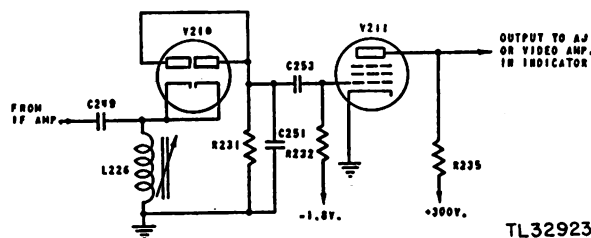
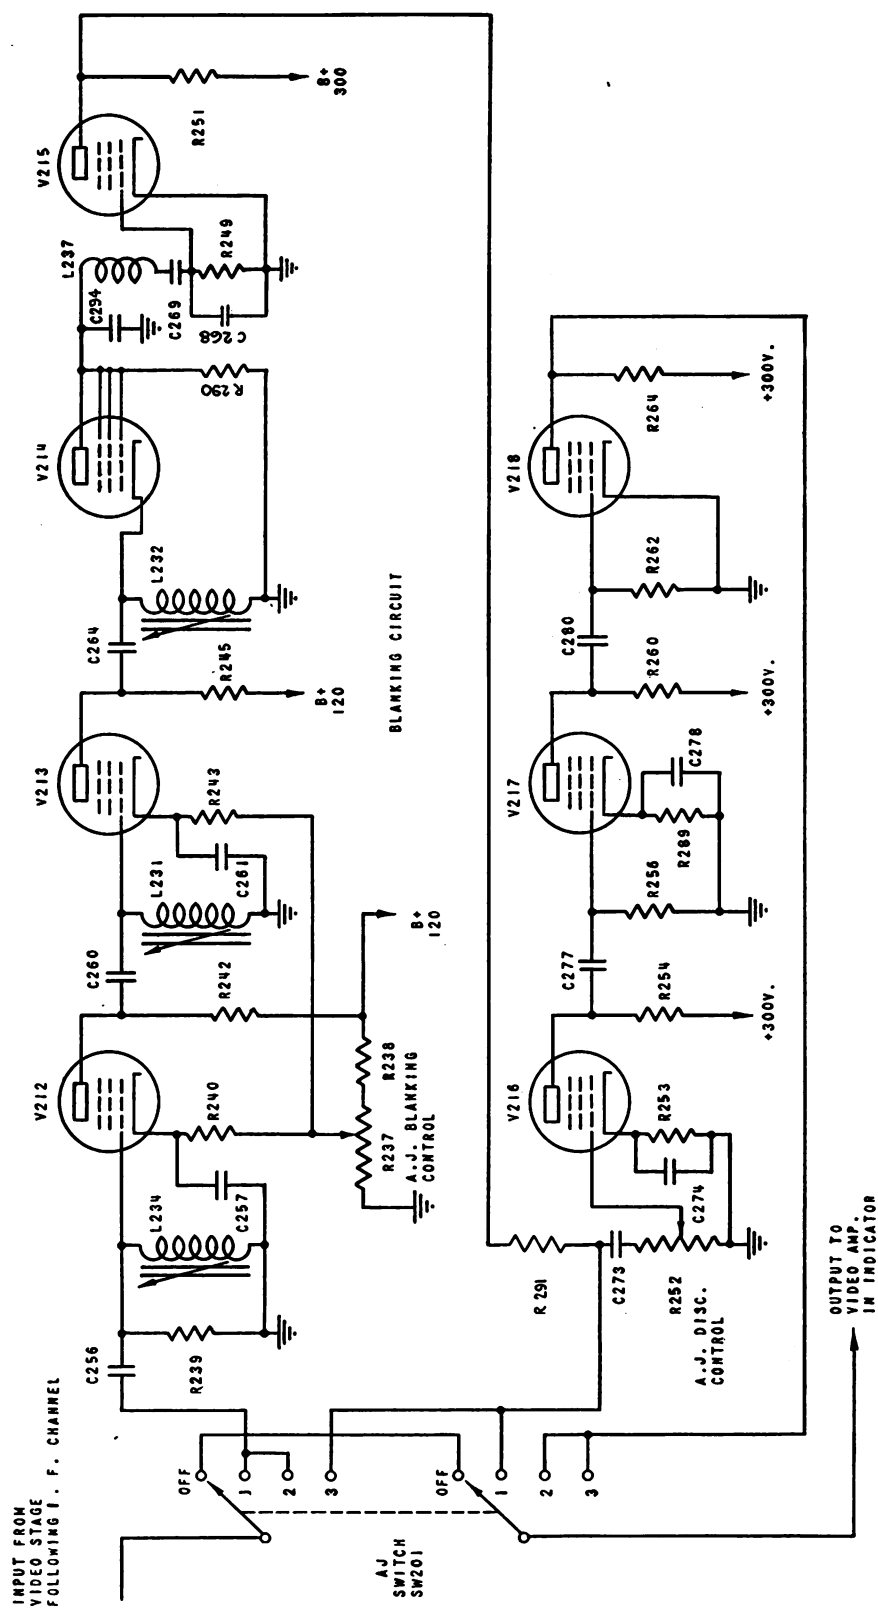

Figure 24. Receiver detector and video functional schematic.
Figure 26. AJ functional schematic TL 32920A
17. DETECTOR. The signal from the 6th i-f amplifier is fed through capacitor C249 to the cathode of the diode detector V210 (figure 24). Since the signal is fed to the cathode, only the negative half cycles cause the tube to conduct the output, which is taken off the load resistor R231 and is a negative video pulse. Capacitor C251, which partially by-passes the load resistor, is made small enough so that the remaining i-f is about 10% of the video pulse. This i-f component of the video signal is necessary for the operation of the a-j blanking circuit, as explained in paragraph 19 below.
a. The video pulse is coupled through capacitor C253 to the grid of tube V211, the video amplifier (fig. 24). Tube V211 is slightly biased through resistor R232. The video pulse is amplified by the tube and appears in the plate circuit as a positive video signal. When the anti-jamming circuit is not used, the output of the video amplifier is fed through the AJ switch SW201, to the multiple plug board. From here it goes on to the video amplifier in the indicator unit.
(a) A simplified schematic diagram of the a-j circuits is shown in figure 26. Switch SW201 in the OFF position bypasses the a-j circuits completely. In position #1 the signal is coupled by C256 to the grid of V212. L234 is tuned to the i-f signal, presenting a high impedance to the intermediate frequency, but a very low impedance to video frequencies. If the video pulse is limited in V211 (fig. 24) no corresponding i-f signal will be present on the grid of V212 (fig. 26). If the video pulse is not limited, there will be i-f signal present on the grid of V212. In either case no video pulse is impressed on this grid because L234
SW201 on position #2, the signal goes through the blanking circuit in the manner just described, but instead of then going to the indicator, the video signal is coupled through C273 into the grid of V216 (fig. 26). The a-j discriminator control R252 is a potentiometer type voltage divider, which controls the amount of video signal that is impressed on the grid of V216. R253 provides self bias for V216 and C274, bypasses across the plate load resistor R254, and is coupled by C277 into the grid of V217. R256 returns the grid of V217 to ground, and in conjunction with C277 forms a filter which passes video frequencies to the grid of V217, but rejects undesired low frequencies (resulting from jamming). R289 provides self bias for V217, and C278 bypasses the cathode to ground. V217 further amplifies the signal, R260 being the plate load resistor; C280 couples the signal into the grid of V218, R262 returning the grid to ground. C280 and R262 form a filter in the same manner as C277 and R256. V218, operating with zero bias, further amplifies the signal, R264 being its plate load resistor. From the plate of V218, the signal goes to SW201 and thence to the indicator. With the switch SW201 on position #3, the video signal is coupled directly through C273 and R252 to the grid of V216, and goes through the discriminator circuit as described above, the blanking circuit not being used.